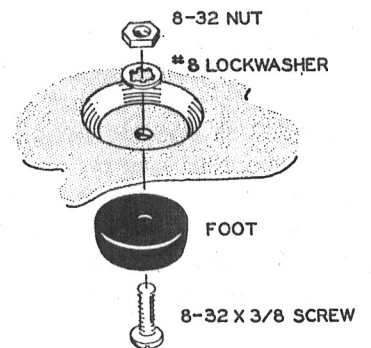

Figure 26
- ( ) Mount the rubber feet on the cabinet, using 8-32 hardware. Refer to Figure 26 for mounting detail.